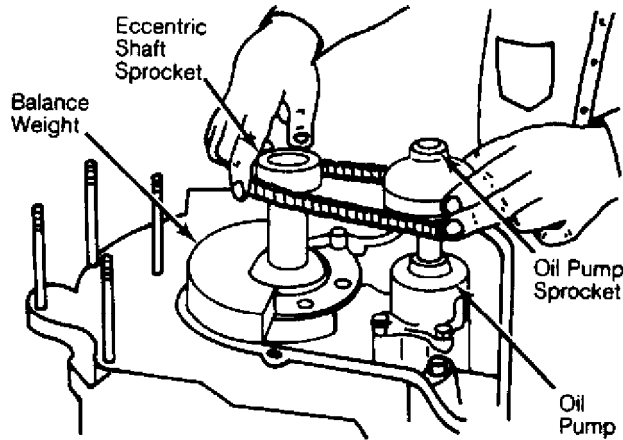

Fig. 2: Removing Oil Pump Drive and Sprocket
4) Remove eccentric shaft pulley. Take off front cover with gasket, and slide distributor gear off shaft. Remove "O" ring from oil passage. Remove oil pump sprocket nut. See Fig. 2. Slide oil pump sprocket, eccentric shaft sprocket and drive chain off together.